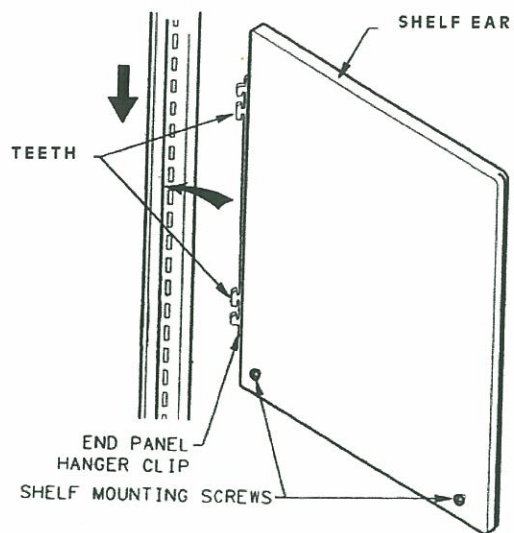

Figure 4
1. When installing ears and shelf, allow 1.5" vertical clearance between product. This will allow for flipper door movement, and maintain visual integrity throughout the entire unit. **See Figure 4.**